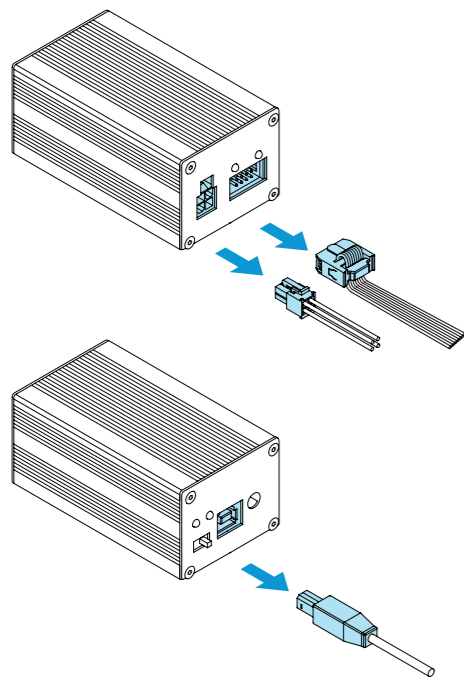

Figure 11.
3. Disconnect each cable shown in Figure 11 one by one from the interface conversion block.